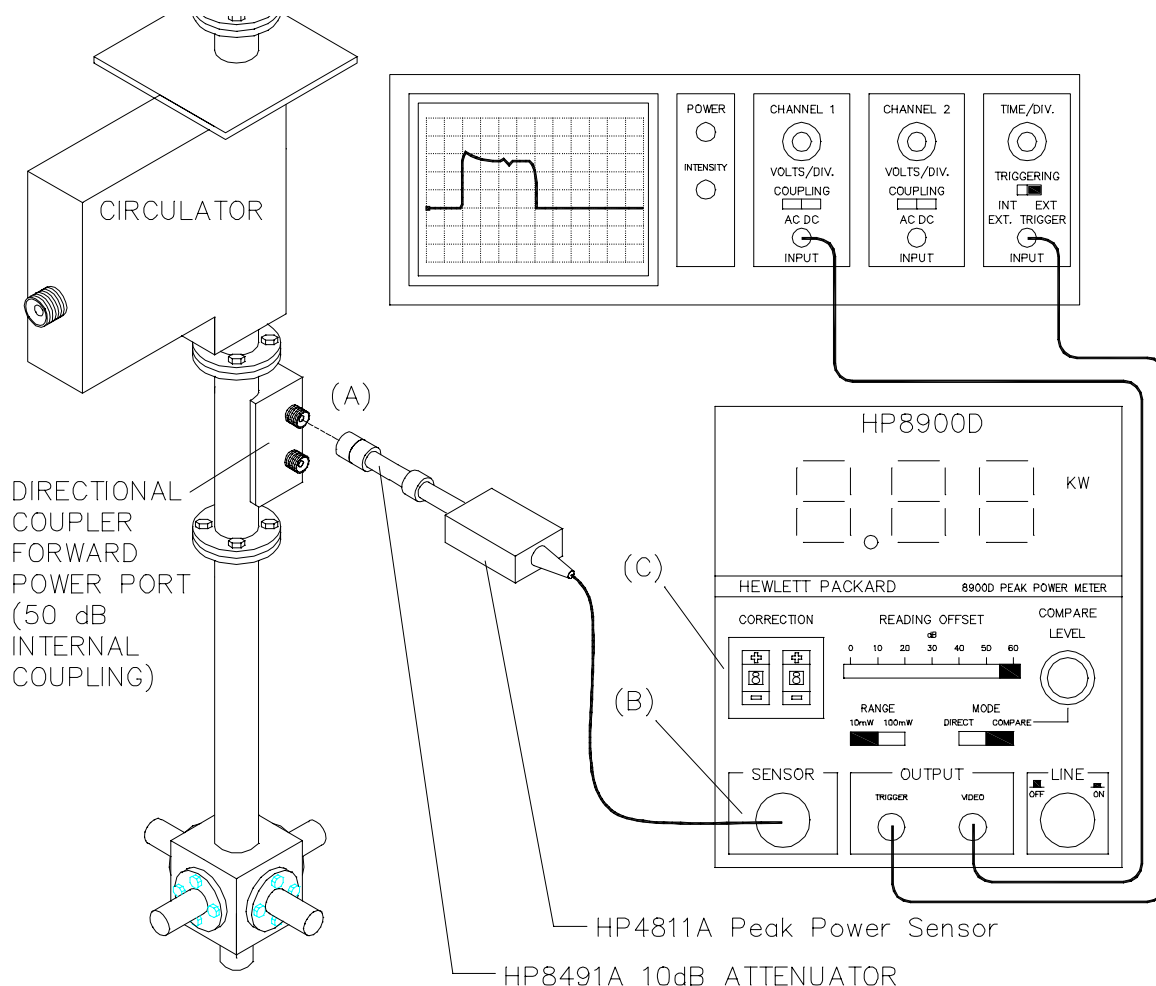

Figure 6-9 Forward Power Sensor Calibration Test Equipment Setup
1. Remove the side panel from the BSU Cabinet. Disconnect the 3-dB pad and cable from the forward power port of the Directional Coupler point (A) in [Figure 6-9].
2. Connect one end of the HP8491A 10-dB Attenuator to the HP84811A Power Sensor and the other end to the FWR (forward) power port of the Directional Coupler as illustrated in Figure 6-9.
3. Connect the output cable of the Power Sensor to the SENSOR input of the HP8900D Peak Power Meter (point B in Figure 6-9).
4. Determine the correction factor marked on the HP84811A Power Sensor that is nearest to the 400-MHz range and dial it into the CORRECTION switches on the front panel of the HP8900D Peak Power Meter (point C in Figure 6-9).
6. Connect the Trigger Output of the HP8900D to the External Trigger Input of an oscilloscope using a BNC (M) to BNC (M) coaxial cable.
7. Connect the Video Output of the HP8900D to Channel One of the Oscilloscope using a BNC (M) to BNC (M) coaxial cable.